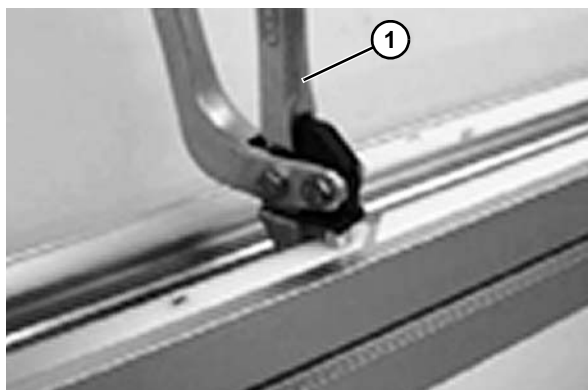

Figure 47
2. Clamp the aluminum rivet by using crimping pliers (**Figure 47, item 1**).